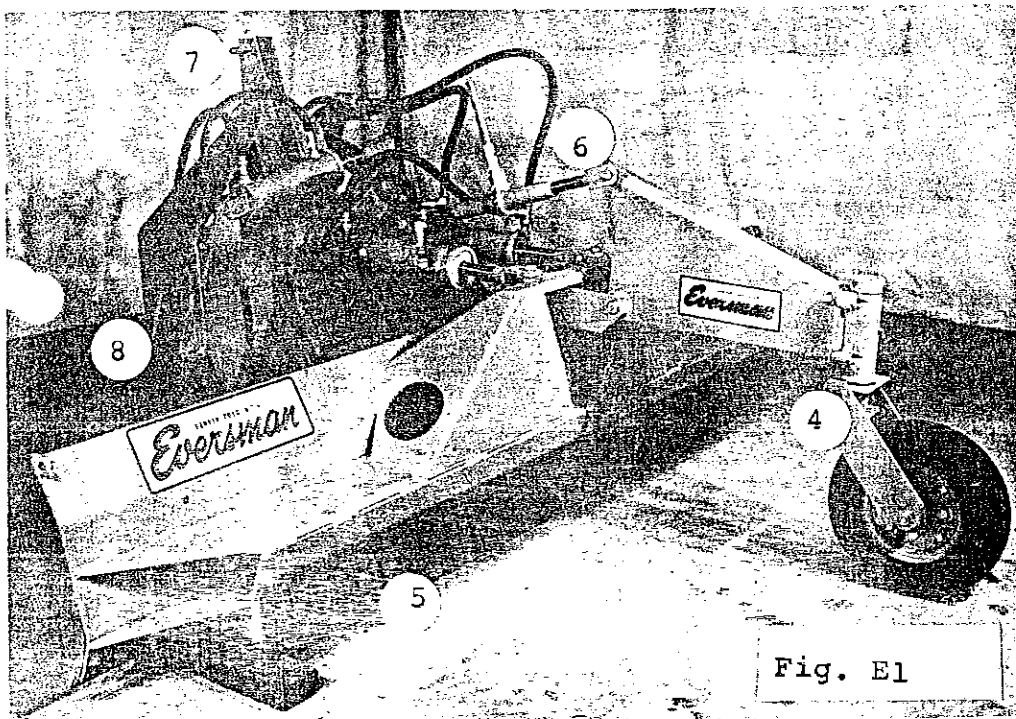

Figure E1
justment of the gauge wheel, but only occasional necessity to vary the tilt of the moldboard, then install the ratchet jack in the tilt control position, as shown in Figure E, and utilize the tilt cylinder to adjust the depth of the gauge wheel. On the other hand, if it is not necessary to change the depth of the gauge wheel frequently, install the ratchet jack as shown in Figure E1, and use the cylinder to control the blade tilt. The upper (7) and lower (8) step pins attach the hitch to tractors with Cat. 1 standard 3-point hitches by inserting in one direction, or to Cat. 2 hitches by reversing the pins. Use the tractor top link, or order optional Adjustable Top Link Assembly #931500.